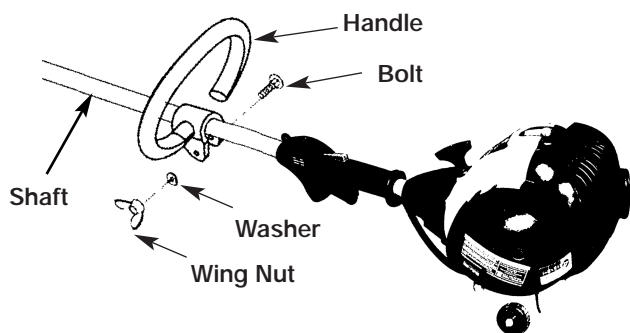

Fig. 1
2. Insert the bolt through the handle to secure it with the washer and wing nut (Fig. 1).